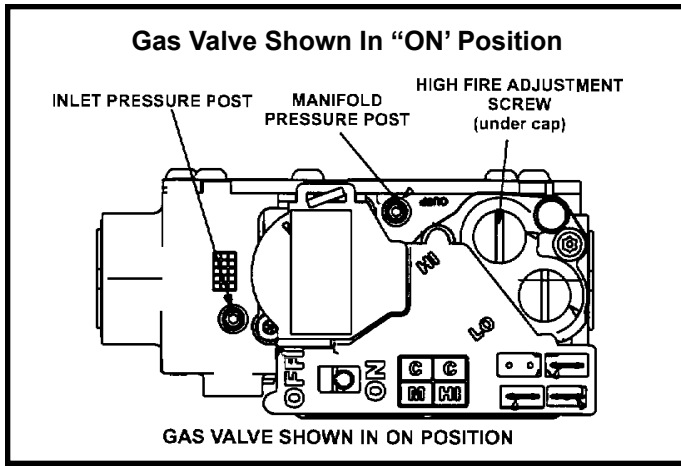

Figure 57
6. Move gas valve switching to **OFF**. See Figure 57.
8. Move gas valve switch to **ON**. See Figure 57.
1. A manifold post located on the gas valve provides access to the manifold pressure. See Figure 57. Back out the 3/32 Hex screw one turn, connect a piece of 5/16" tubing and connect to a manometer to measure manifold pressure.